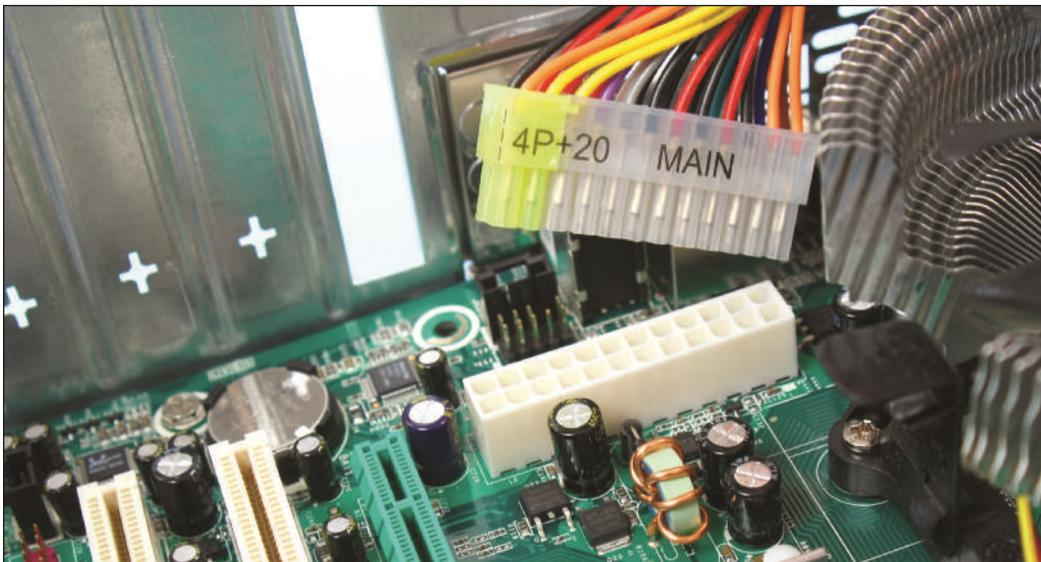

Figure 2-23 The 24-pin connector supplies power to the motherboard
- ▲ Connect the P1 power connector from the power supply to the motherboard (see Figure 2-23).